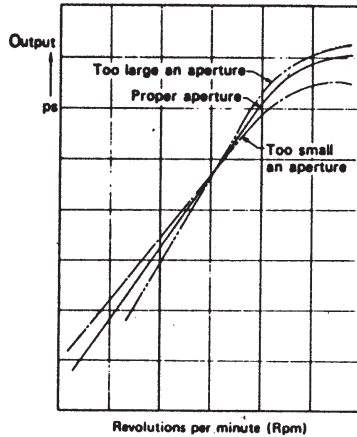
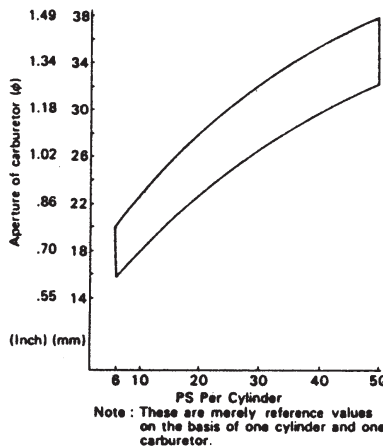

Fig. 8
Fig. 9
One of the prerequisites for improving the output is to use a carburetor with as large a main bore as possible. However, a large main bore alone does not necessarily improve the output. (Bigger is not always better.) As shown in Fig. 8, it is true that a large main bore improves the power output in the high speed range. However in the slow speed range, the output rather drops. The main bore size selection should be determined by various factors such as: (1) whether the vehicle is intended for racing, (2) the design of the engine, (3) driving technique of the driver, (4) the driver's preference, etc. In addition, the maximum output, the maximum torque and the minimum number of revolutions for stable engine operation must also be taken into account. Fig. 9 shows the values which have been obtained through our experience over the years.
Since the engine comes in a wide variety of types, the values given in Fig. 9 should be taken only as reference values.